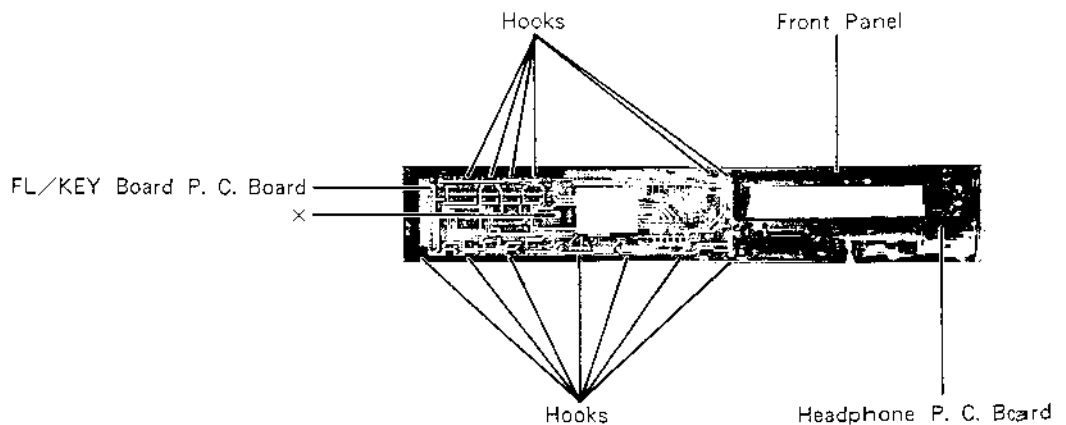

Figure 3
- (1) After removal of front panel, remove one screw marked "X" as shown in Figure 3.
- (2) Remove thirteen hooks as shown in Figure 3.
- (3) Disconnect one connector from the FL/KEY Board P. C. Board.